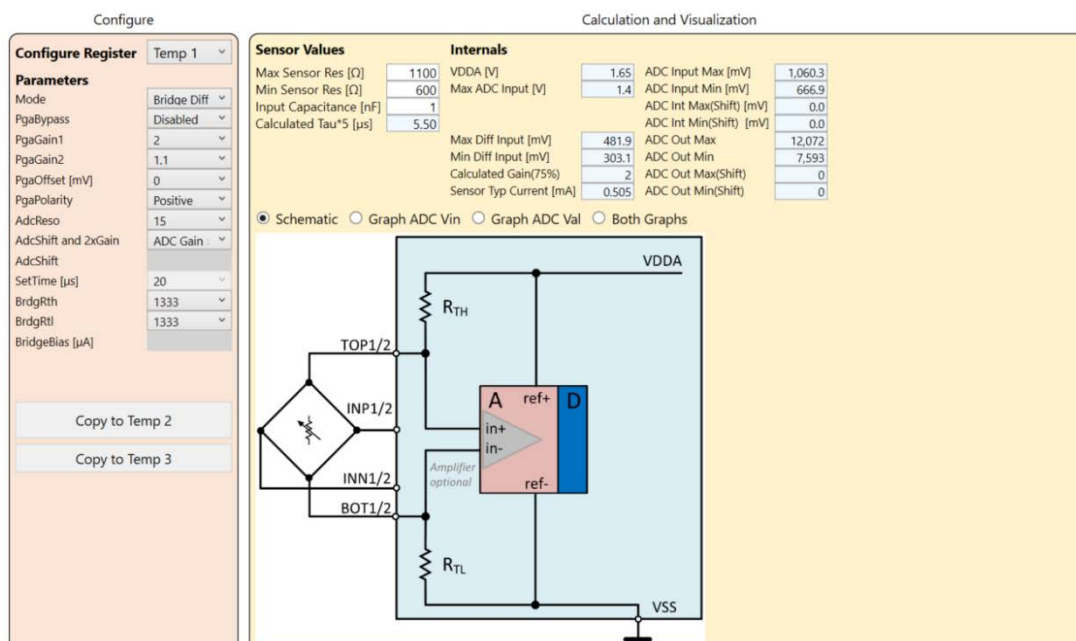

Figure 59. Mode Bridge Differential
- Bridge, Differential: The resistive bridge (used for the main measurement) is supplied through an internal configurable resistor tied to VDDA (RTH) and to VSS (RTL) (Figure 59).